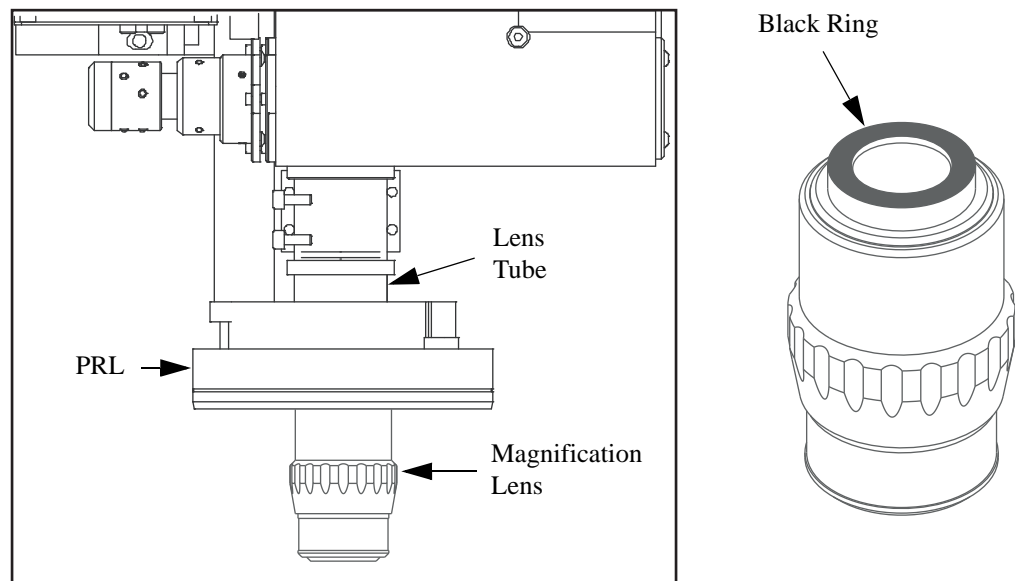

Figure 6-7 Removing the Magnification Lens
2. Unscrew (CCW) the magnification lens from the lens tube (see Figure 6-7).
2. Unscrew (CCW) the magnification lens from the lens tube (see Figure 6-7 on page 61).